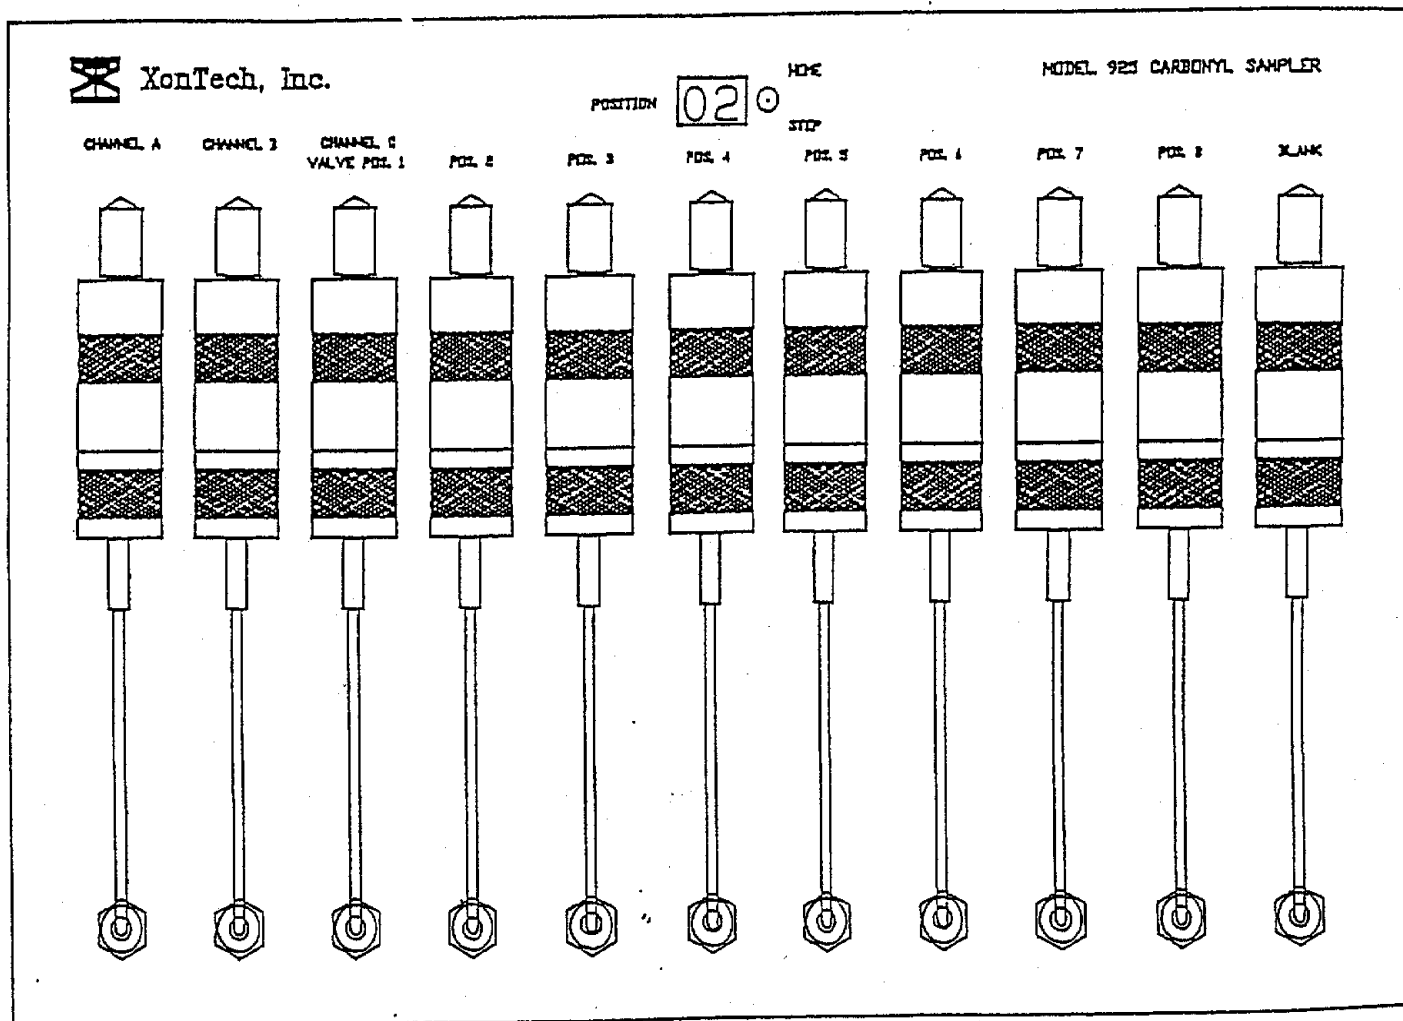

Figure AD.1.1.1
1. Install a carbonyl cartridge into either channel A, B, or C by disconnecting the cartridge sampling lines (turn and pull down) and unscrewing the cartridge holders. (See Figure AD.1.1.1). Prior to installing the cartridge, remove the plastic caps located at each end of the cartridge. Do not discard the caps. Additionally, verify that the o-ring inside the cartridge holder is in place.